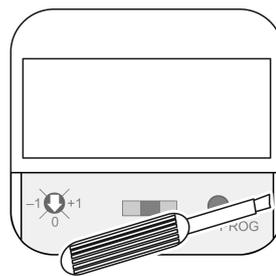

Figure 16: Dismounting of design cover
- Use a screwdriver to carefully remove the design cover (Figure 16).